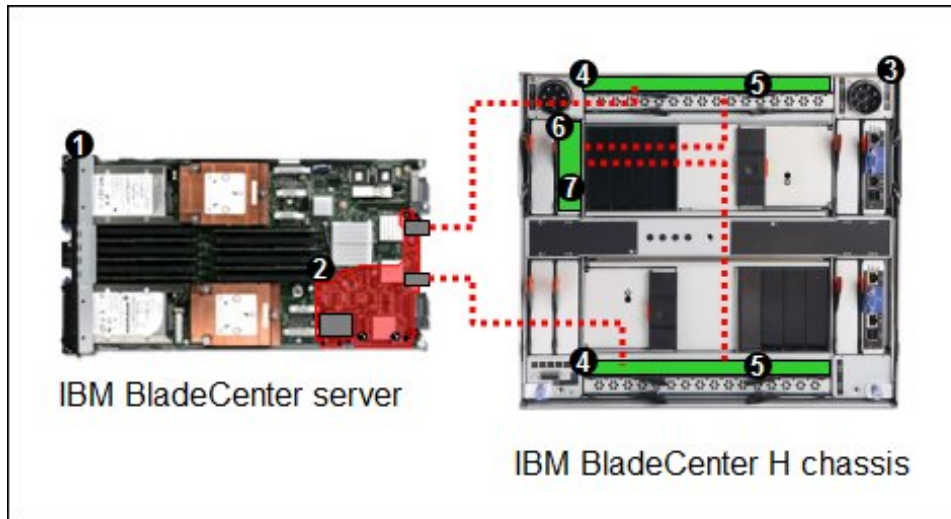

Figure 4. Converged networking solution with one QLogic Virtual Fabric Extension Module and two Virtual Fabric 10 Gb Switch Modules
* While Virtual Fabric 10 Gb Switch Module has ten external 10 Gb ports, the configuration described above allows use of only up to eight external ports on each switch because two 10 Gb external ports on each switch are remapped to two internal connections to one QLogic Virtual Fabric Extension Module as shown on Figure 4.